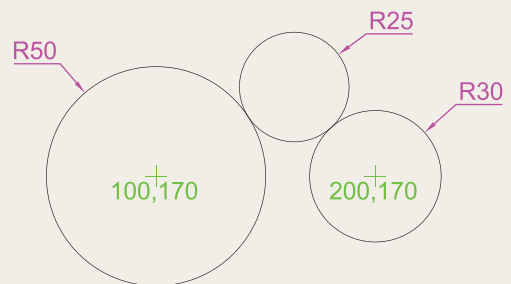

Fig. 2.31 Exercise 4
4. Using the **Circle** tool, construct the two circles of radius 50 and 30. Then using the **Ttr** prompt add the circle of radius 25 and then add the circle of radius 25 (Fig. 2.31).